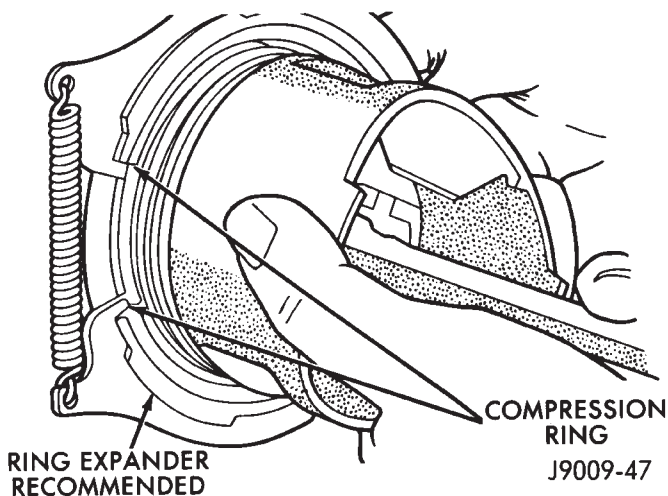

Fig. 24 Compression Ring Installation
(9) Using a ring installer, install the second compression ring with the chamfer facing down (Fig. 24). The dots will be facing up.
(10) The top compression ring (the scraping edge is gray in color) has a chamfer on the TOP of the inside edge. This ring has one dot located on the top surface.